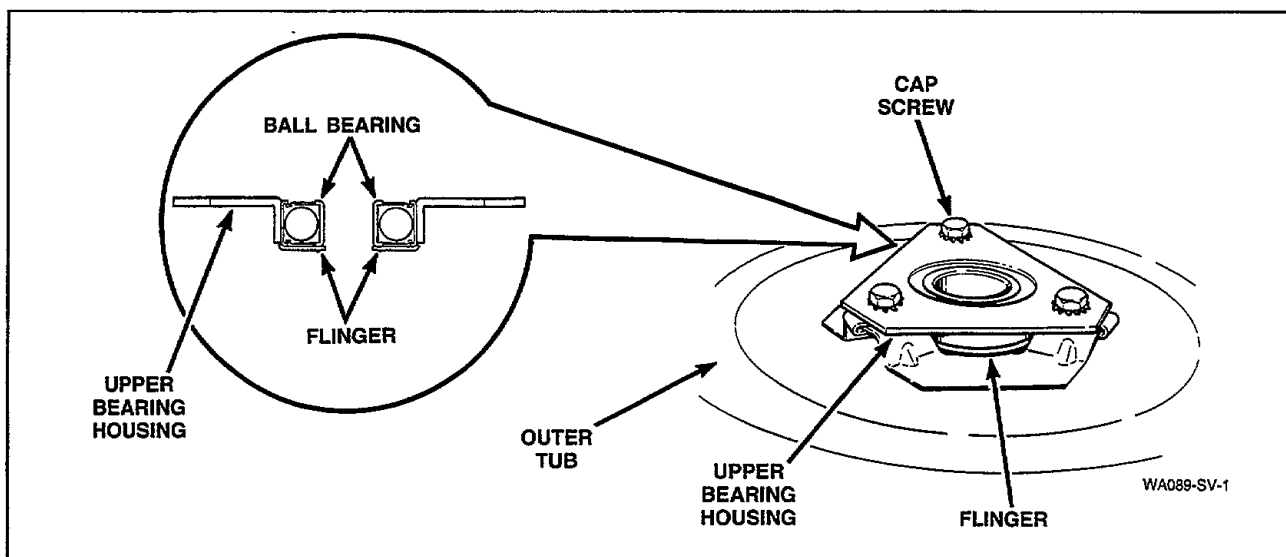

Figure 47
- c. Remove three screws holding upper bearing and housing to bottom of outer tub, *Figure 47*.
NOTE: Replace bearing and housing as an assembly, and be sure flinger is properly positioned between the outer tub and bearing assembly, *Figure 47*.